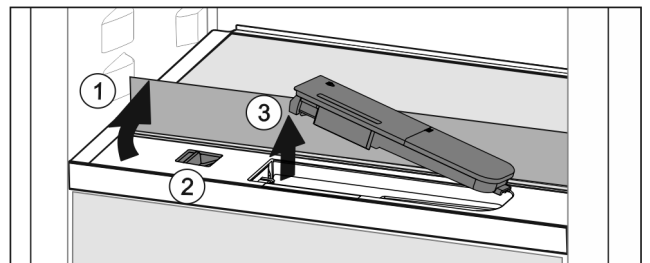

Fig. 127
- ▶ Lift the glass panel and fold towards the rear until it clicks into place Fig. 127 (1).
- ▶ Slide the slider Fig. 127 (2) to the left.
- ▶ Remove the water tank *Fig. 127 (3)*.